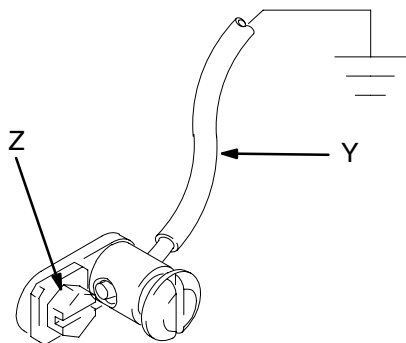

Fig. 1
To ground the pump, remove the ground screw (Z) and insert through the eye of the ring terminal at end of ground wire (Y). Fasten the ground screw back onto the pump and tighten securely. Connect the other end of the ground wire to a true earth ground. See Fig. 1. *To order a ground wire and clamp, order Part No. 222011.*